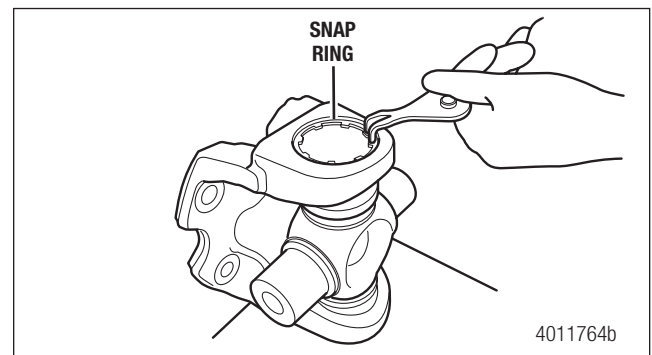

Figure 5.92
10. Install the snap ring. Ensure it is seated all the way around the groove. Use a drift and hammer if needed to seat it in the groove all the way around. If the snap ring will not seat correctly, make sure the snap ring groove is clean and free of debris. Figure 5.92.